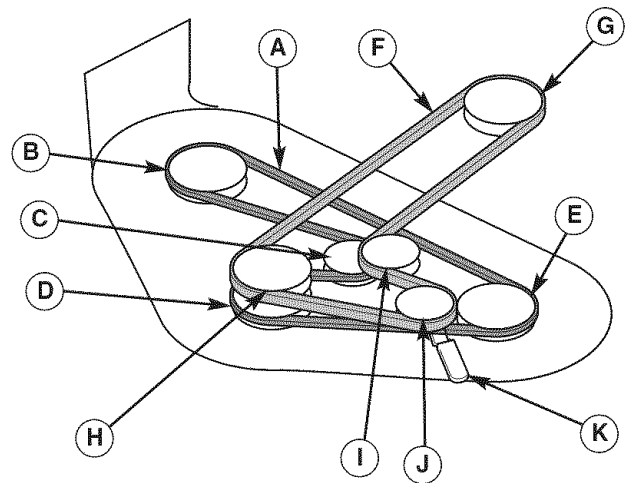

Figure 41. PTO Belt Routing
2. Use the idler pulley arm (K, Figure 41) to release belt tension and remove the mower drive belt (F) from the PTO pulley (G).
Contact a Sears Parts & Repair Center for replacement of the arbor drive belt (A, Figure 41).